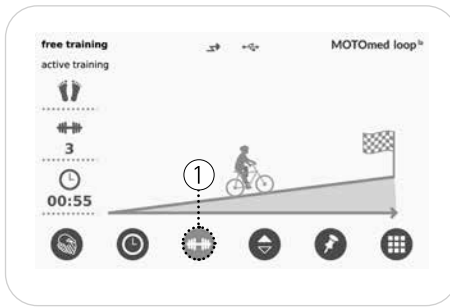

Fig. 5.32
see Fig. 5.32 Press the ‚weight‘ button ① during active training.